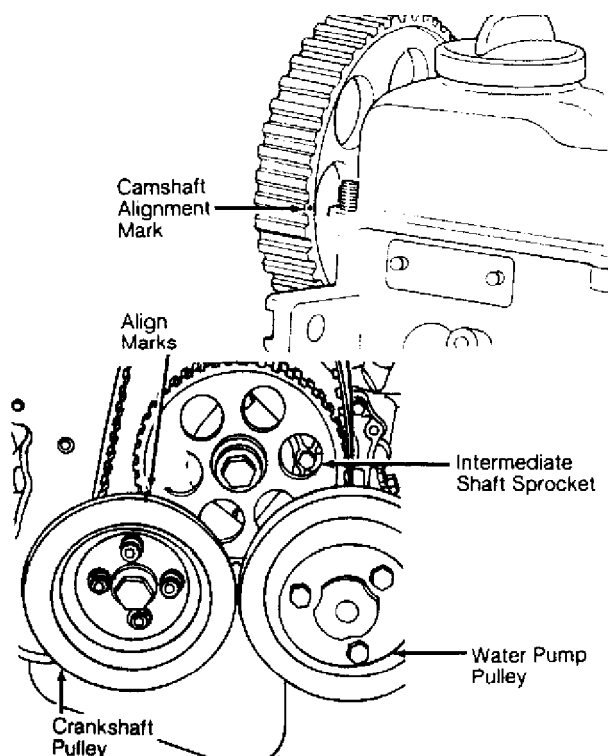

Fig. 8: Aligning 1.8L Timing Marks (8-Valve)
2) With intermediate shaft/ignition rotor positioned, rotate crankshaft and align mark on crankshaft pulley with mark on intermediate shaft sprocket. Position camshaft sprocket mark even with valve cover surface. See Fig. 8. Install timing belt.
2) Label and remove coolant hoses from water pump. Remove water pump pulley. See Fig. 8. Remove bolts and remove water pump assembly. To install, reverse removal procedure. To fill cooling system, remove thermo time switch, located on water flange, to allow air to bleed out of system.